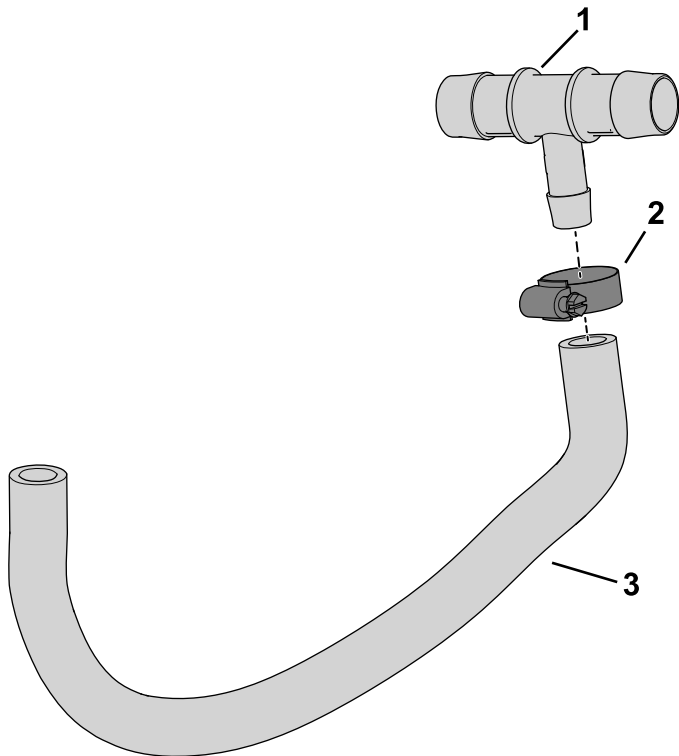

Figure 12
1. Slide the hose clamp over the hose (Figure 12).
2. Insert the barbed end of the tee fitting into the hose and secure it with the hose clamp as shown in Figure 12.